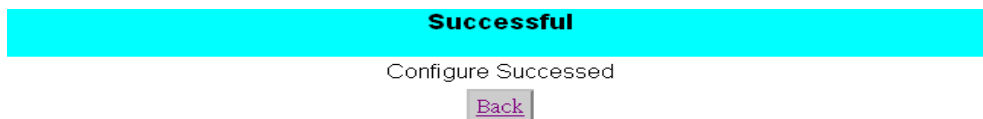

Figure 3.25 Configure success
2. If the update is successful, the following screen appears. (Figure 3.25)